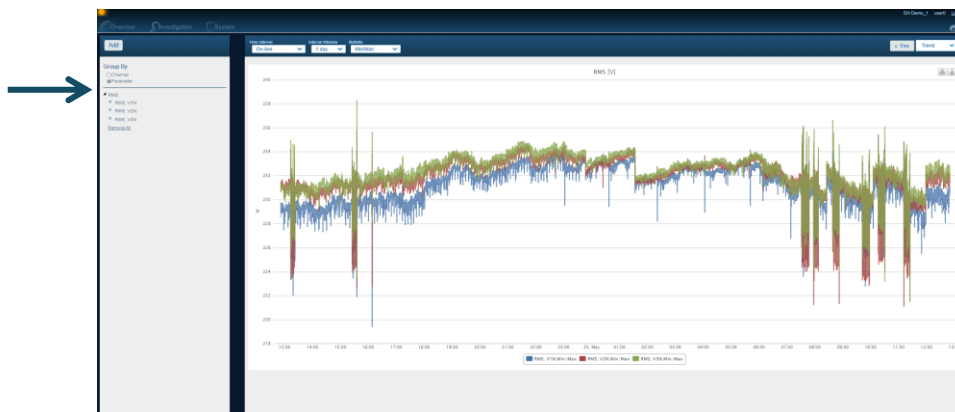

Figure 5-14: Investigate Trends – 2
- 2 If no parameters were added previously, use the **Add** button on the upper-left side to add the parameters to be displayed as a trend, as described on page 127. After you add them, the parameters appear listed in the left pane of the Investigation window, as shown below (Figure 5-14).